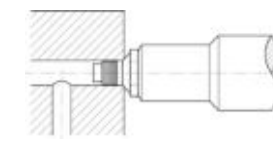

Fig. 2
- The mandrel will break apart when the proper tension has been reached (Fig. 2 and 3).